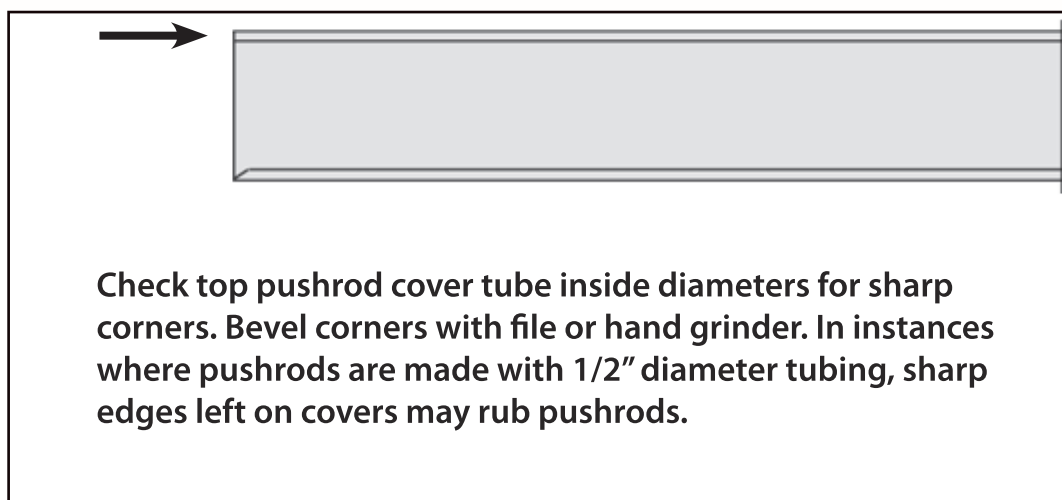

Figure 1
- Clean & inspect pushrod tubes. Prepare top cover as per **Figure 1**, if alloy pushrods are used. Replace all cork and/or o-ring seals. Apply a light coat of engine oil to o-rings.
- 1/2" diameter alloy pushrod kits, for ironhead Sportster® models & knucklehead engines, may contact the pushrod tubes. It is advisable to chamfer the lower, inside diameter of the top pushrod cover tube when installing these pushrod kits. See **Figure 1** below.